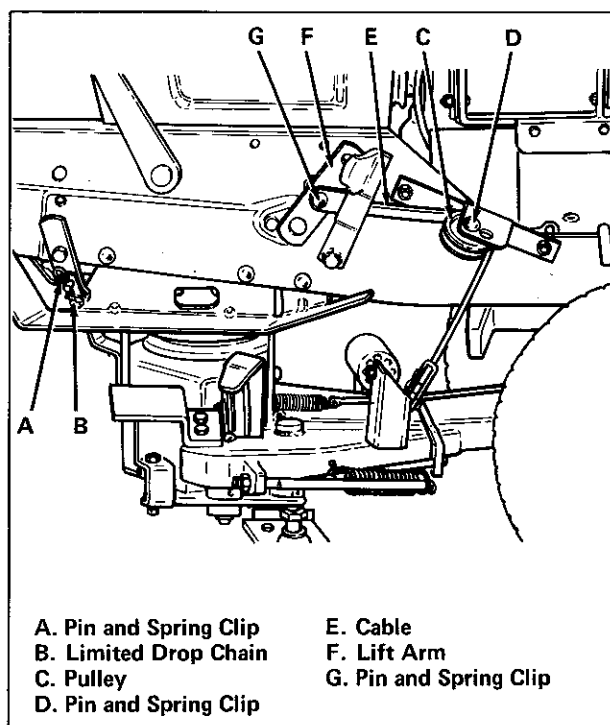

Figure 2. Install Lift Cable to Right Side of Tractor
2. Use pin and spring clip (item A, figure 2) to attach limited drop chain (item B) to tractor.
5. Remove spring clip and pin (item D, figure 2) to remove pulley (item C). Remove lift cable (item E) by removing spring clip and pin (item G). Reinstall pulley with pin and spring clip.
6. Remove mower limited drop chain (item B, figure 2) by removing spring clip and pin (item A).